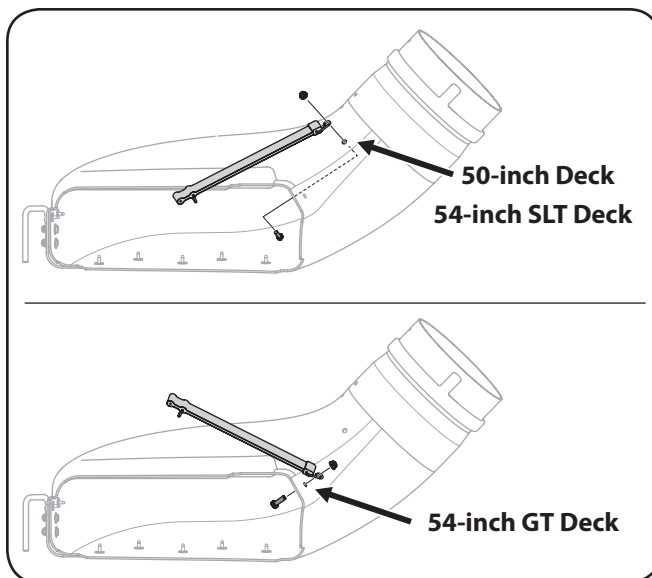

Figure 1-1
1. Secure the strap to the chute with the hex screw and flange nut provided. See Fig. 1-1.